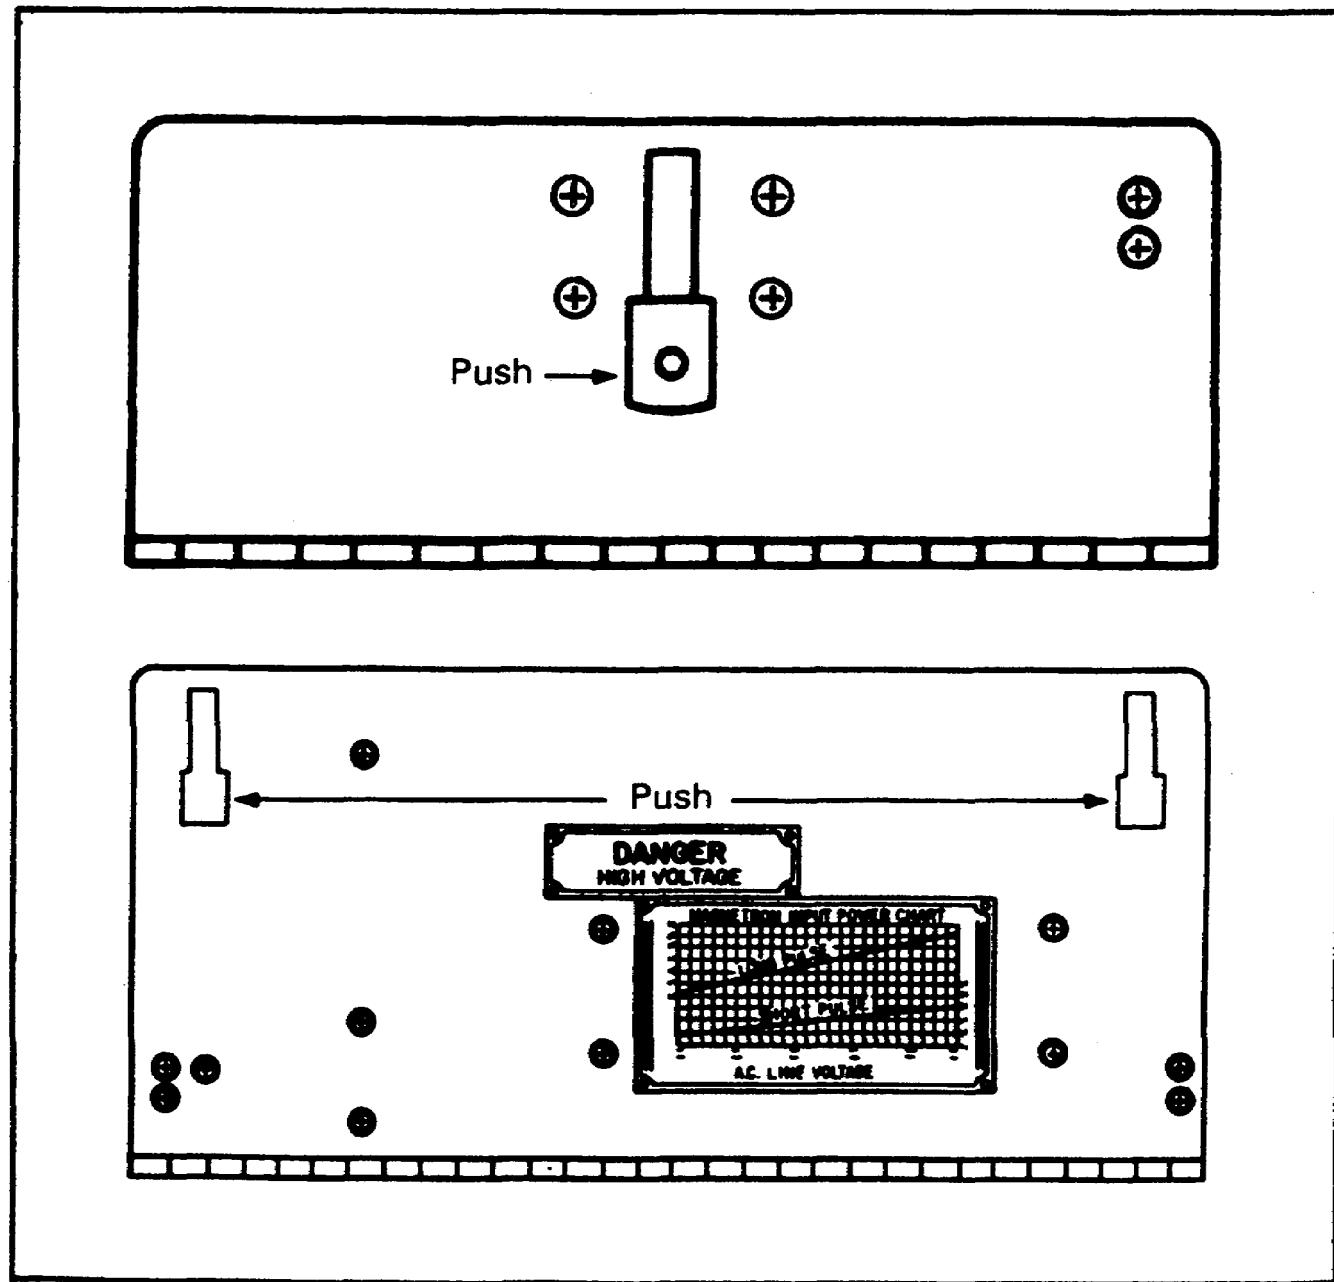

Figure 45. Panel covers.
NOTE: On receiver chassis and transmitter chassis, it will be necessary for you to push the quick release latches and pull down the panel covers for access to controls and test points. (See Figure 45.)
c. Locate and release latches on the panel covers of the receiver chassis and transmitter chassis. (See Figure 45.)
- Release latches on receiver and transmitter panel covers (Figure 45)